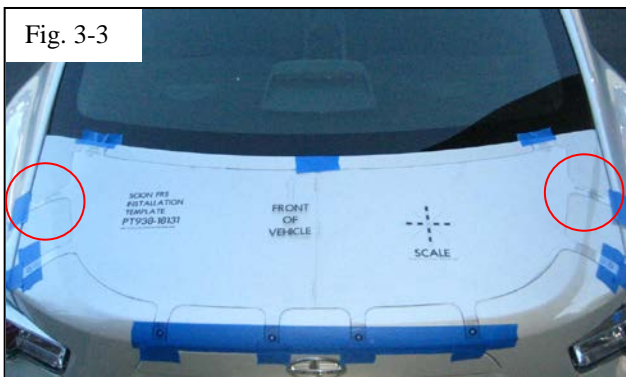

Fig. 3-3
- (c) Align the template left to right using the left and right alignment tabs by ensuring that the edges indicated with arrows are equidistant from their respective trunk lid edges. The template should be centered left to right on the trunk lid (Fig. 3-3).